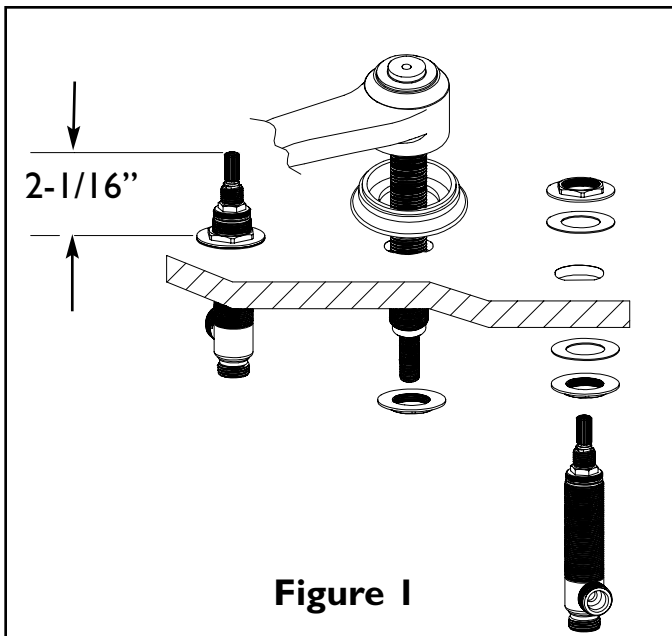

Figure 1
1. Place the spout shank through center hole of mounting surface. Secure spout, (spout base ring, if supplied), into place with spout washer and nut. See Fig. 1
2. Place nut & washer on valve body. Insert body, (blue cold & red hot), through hole in the mounting surface. Adjust and secure with additional washer and nut so that the top of valve is 2-1/16" above the top of mounting surface. See Fig. 1